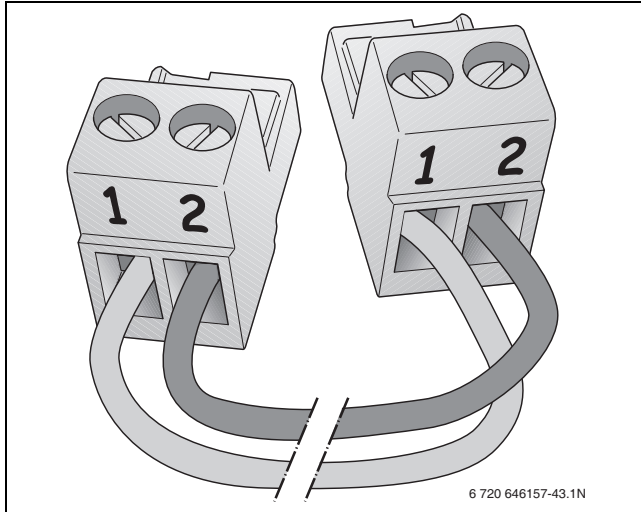

Fig. 46 EMS bus polarity
- ▶ Make an EMS bus connection cable using a 2-core cable and the connector enclosed with the module (→ fig. 46).